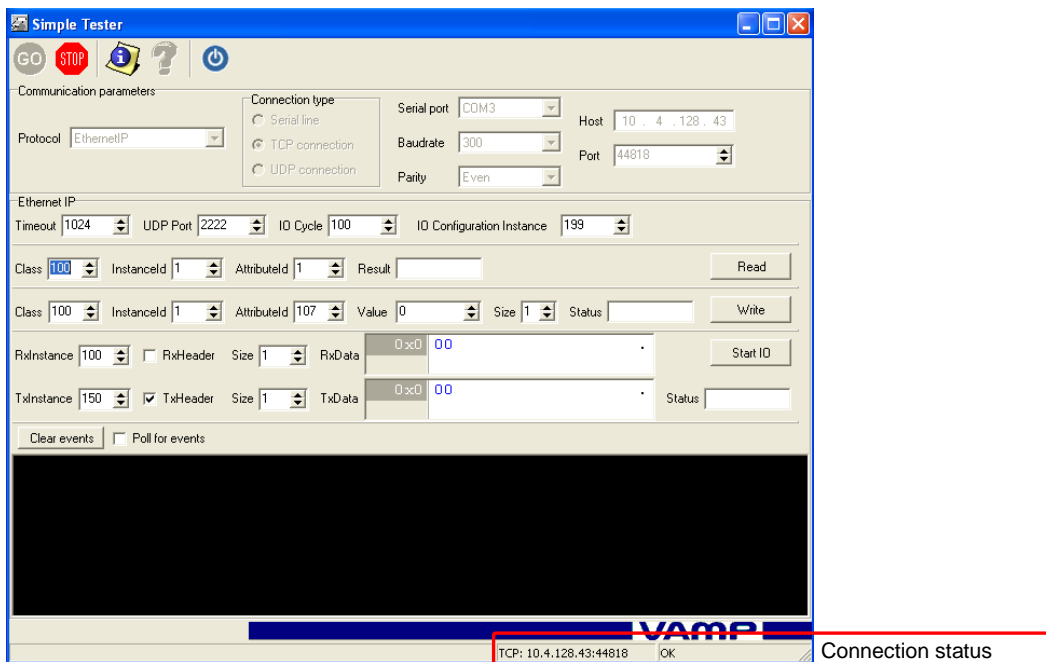

Figure 4.2-1: Simple Tester connected.
Connecting Simple Tester is done as follows (please refer to Figure 4.2-1):
5. A successful connection will be indicated by an “OK” down in the rightmost corner of the Simple Tester window. See Figure 4.2-1 for an example of a successful connection.